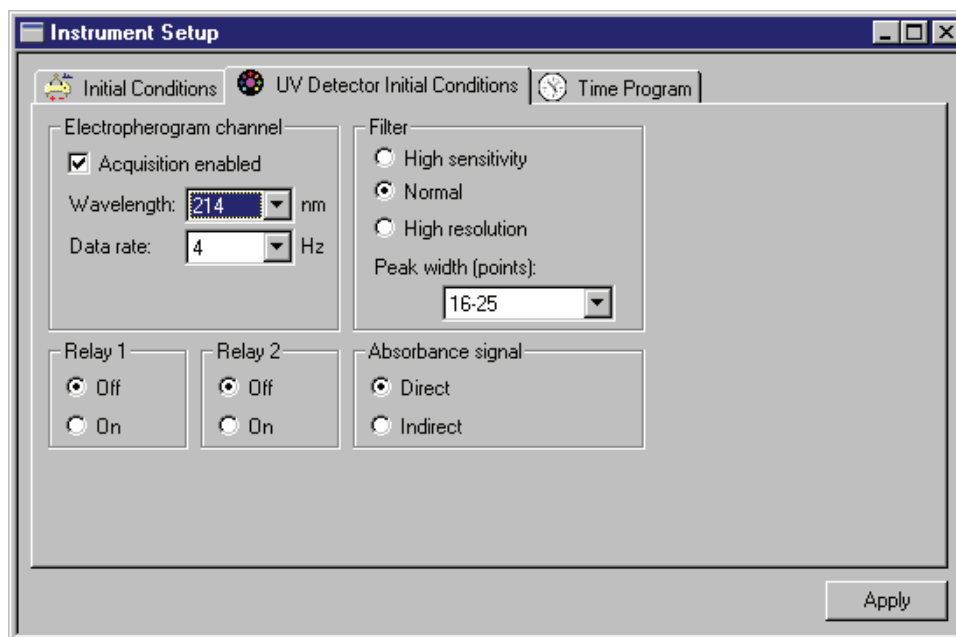

Figure 5.2 Instrument Setup dialog - UV Detector Initial Conditions tab
3. Select the tab marked “**Initial Conditions**” to bring it to the front. The dialog in Figure 5.2 will appear.
For this exercise, set conditions in the Initial Conditions tab to match Figure 5.2.